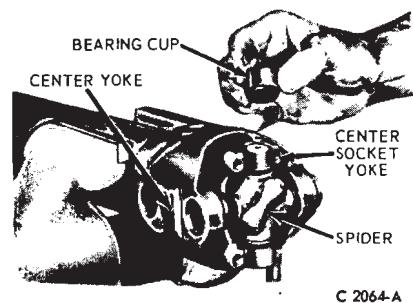

FIG. 6—Removing Bearing Cup from Centering Yoke Socket
6. Lift the two bearings (Fig. 6)